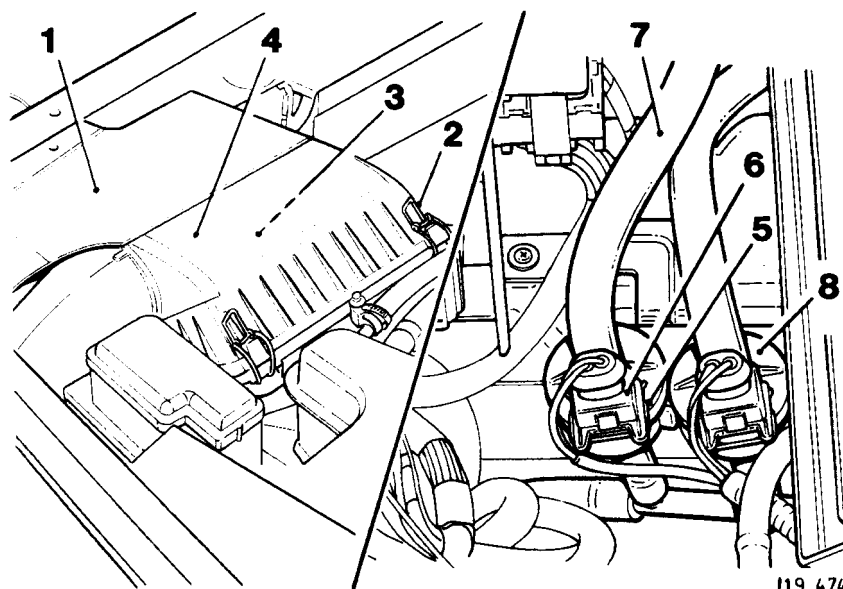

Fig. 1
- Remove the left-hand headlamp relay cover (1 Fig.1), see Section 15.
- Remove the left-hand air cleaner element (2 Fig.1).
- Remove the right-hand air cleaner assembly (3 Fig.1).
- Remove air box mounting bracket (4 Fig.1).
- Disconnect 'A' bank purge valve multi-plug (5 Fig.1).
- Release securing clip (6 Fig.1).
- Disconnect all hoses (7 Fig.1) from valve.
- Remove valve (8 Fig.1).